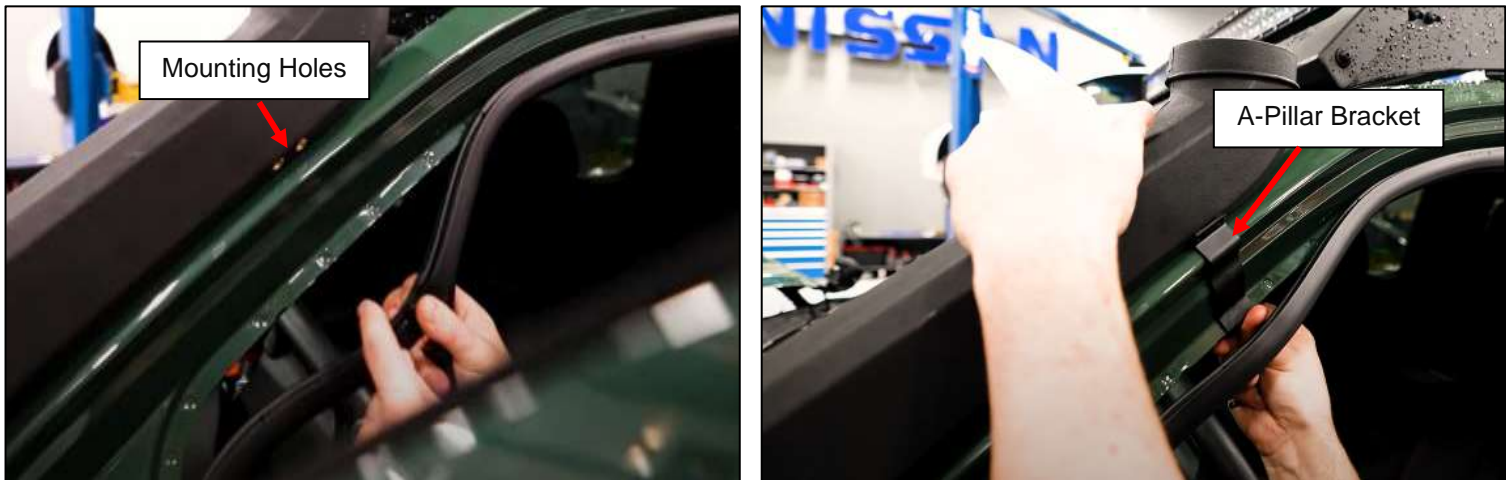

Figure 13
20. Locate (3) three M8 x 1.25 Hex Head Screws, 18mm, and (3) three M8 Oversized Washers. Position a Washer over each bolt and apply RTV to the threads of each bolt. Install each bolt from inside of the Fender Well into the Snorkel Upright. Tighten by hand first, then tighten with a wrench.
- NOTE:** Do not overtighten the (3) three bolts, as Snorkel Upright could crack. Tighten enough that the Snorkel Upright is firmly attached and snug to the front fender.
21. Once the Snorkel Upright has been positioned, locate the A-Pillar Bracket. Pull back the weather seal inside of the driver side door. Install the A-Pillar Bracket onto the pinch weld and position it to line up with the Snorkel Upright mounting holes. *Figure 13.*